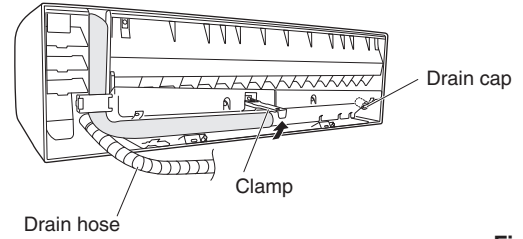

Fig. 3-29
- (a) Locate the drain hose and the drain cap. (Fig. 3-29)
- (b) Remove the screw fastening the drain hose on the right side, and pull out the drain hose to remove it. (Fig. 3-29)